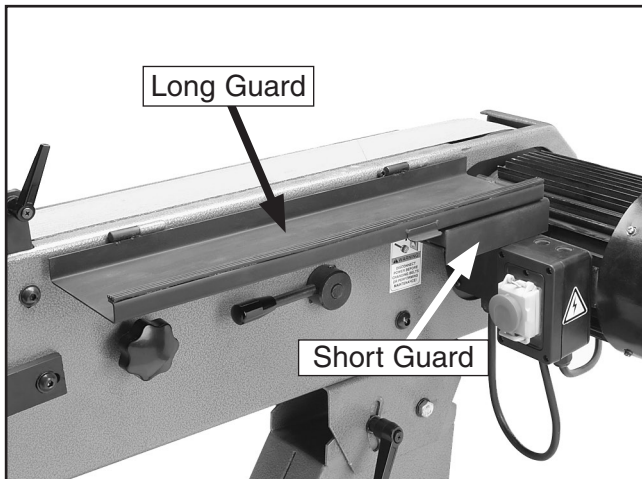

Figure 16. Short guard section folded out of the way.
- Make sure the shorter, hinged section of the belt guard is folded all the way back to the longer belt guard section. This will allow the belt guard to clear the motor and open completely (see **Figure 16**).